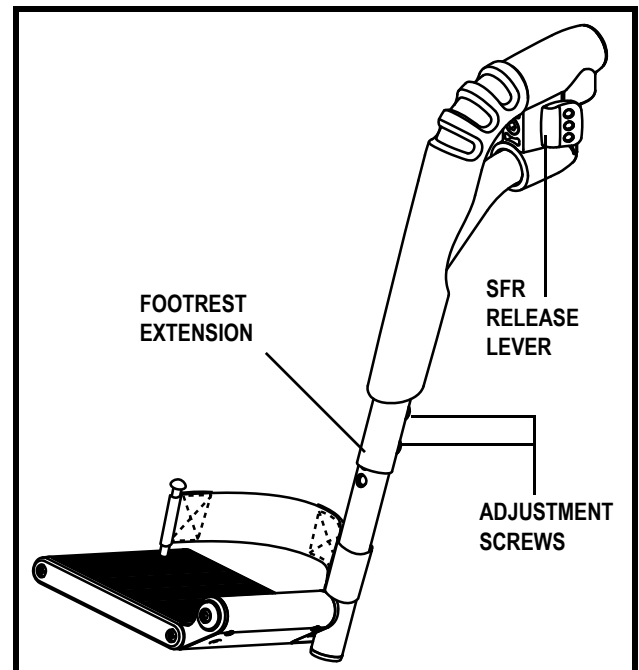

Figure 22. Swing-Away Footrests
1. Remove the adjustment screw(s) from the footrest extension. **See figure 22.**